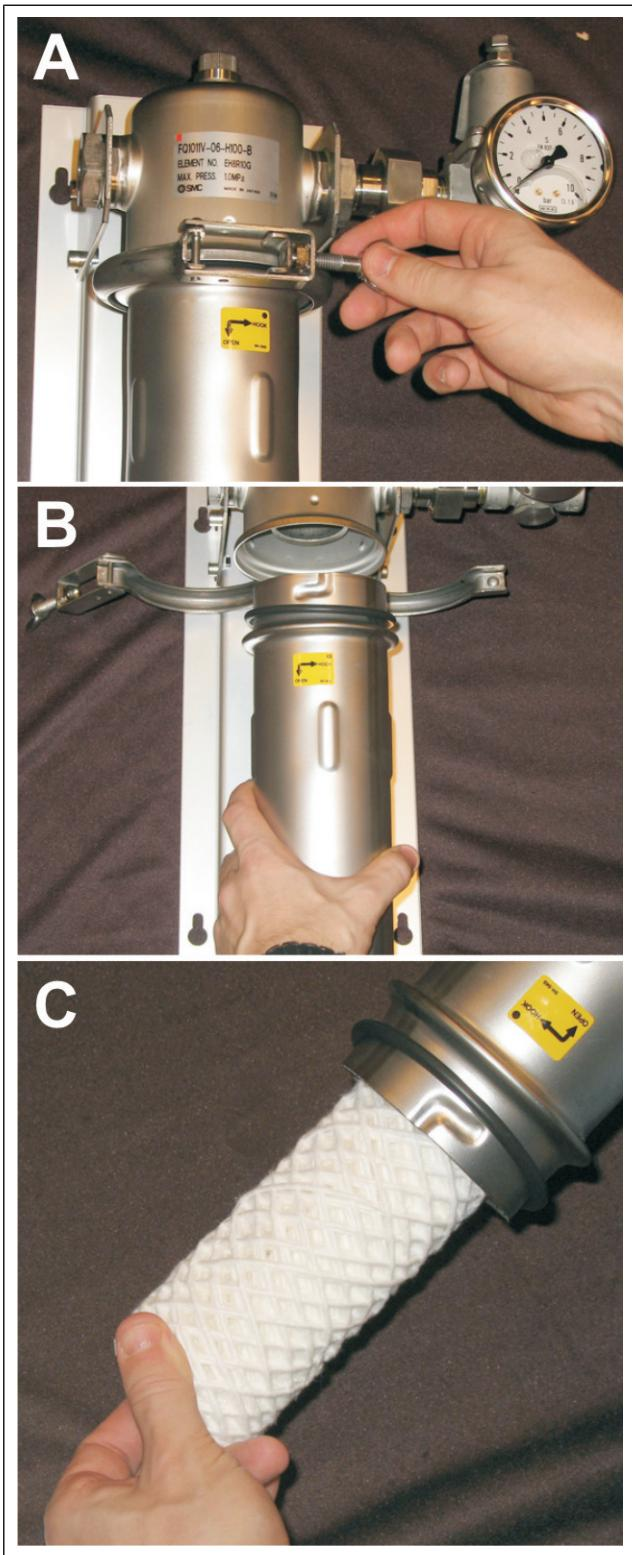

Fig. 1. Cleaning the water filter.
3. Release the bowl fastening collar by opening the wing nut (Fig. 1, step A).